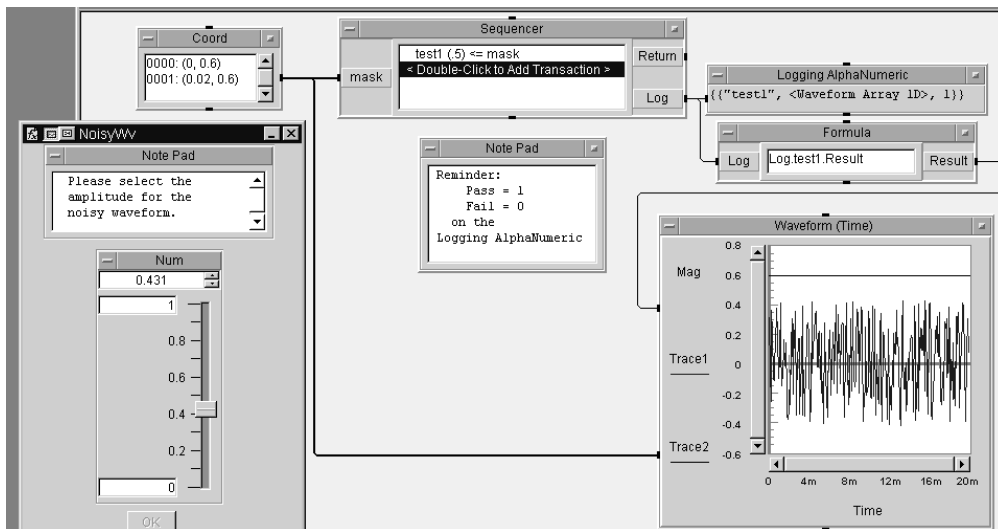

Figure 15.13. Comparing a waveform to a mask
34. Run this program; see Figure 15.13.